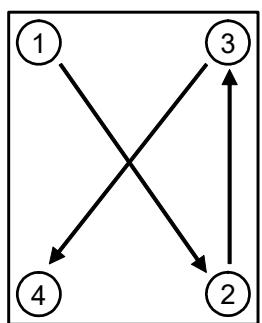

Fig.5-10 : Example of order which tighten bolts
- 4) Confirm that packing is stuck correctly and install the cover. When tightening the bolts fixing the cover, avoid tightening them to a specified torque at a time. Tighten the bolt in the order shown as much as possible in the "Fig. 5-10 Example of order which tighten bolts" The torque which tightens the fixing bolt of each cover is shown in "Table 5-4 : Cover name and installation screw list \(RH-3FRH/6FRH/12FRH/20FRH series\)" or "Table 5-5 : Cover name and installation screw list \(RH-3FRHR series\)".